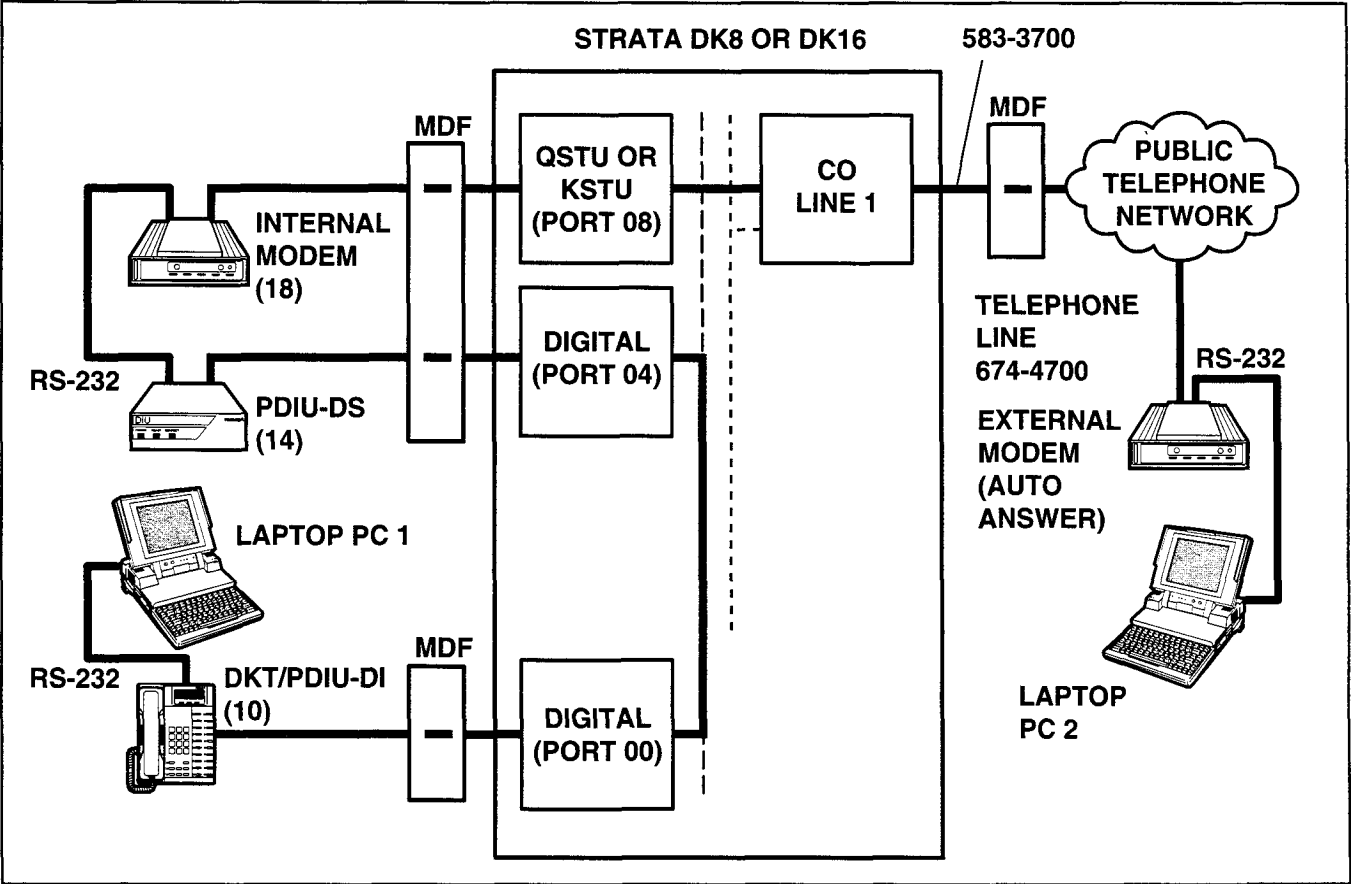

FIGURE 7-36
10.84 Internal PC to External PC Test Call Using AT Commands (see Figure 7-36)